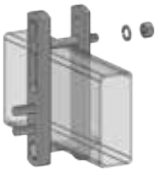

Figure 10
2. Insert the second $\frac{5}{8}$ " x $3\frac{3}{4}$ " bolt through the open hole closest to the top of the trailer frame. (Figure 10)